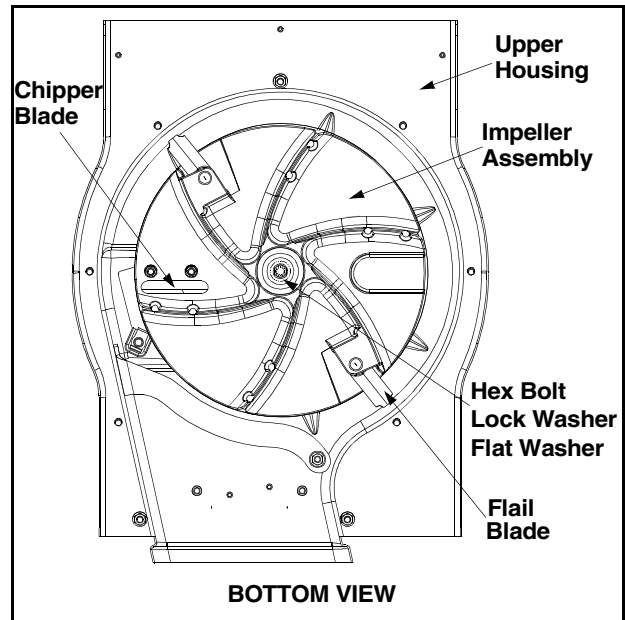

Figure 19
- Remove the hex bolt, lock washer, and flat washer that secure the impeller assembly to the crankshaft. See Figure 19.